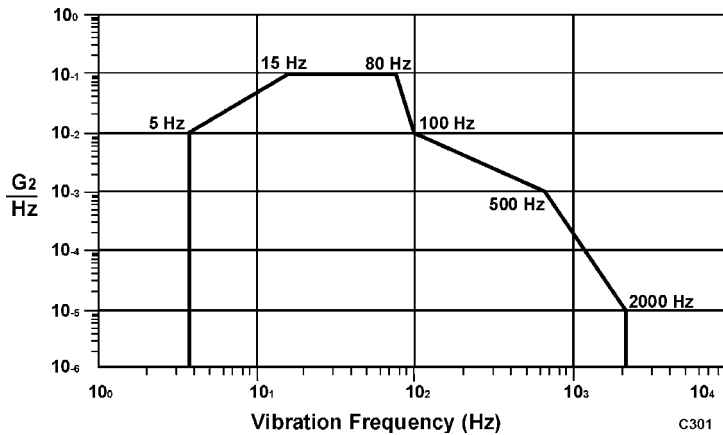

Figure 7. SAE Composite Curve (Random Noise)
**Vibration.** Full performance. See the composite SAE curve in Figure 7. Survival, 18G peak, 5 ms duration.